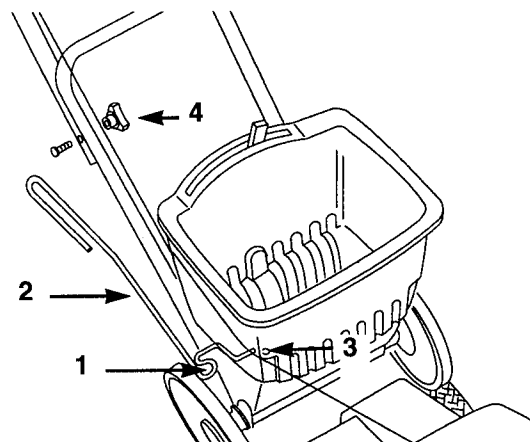

Figure 74
3. Remove the handle knob and bolt (Fig. 74) from the right side of the mower.
- A. Insert the mounting rod into the hole on the right side of the hopper (Fig. 74).
- B. Put the engine rope into the curve in the mounting rod (Fig. 74).
2. Remove the mounting rod and bracket from the handle and the hopper (Fig. 74). Reinstall the handle knob and bolt.